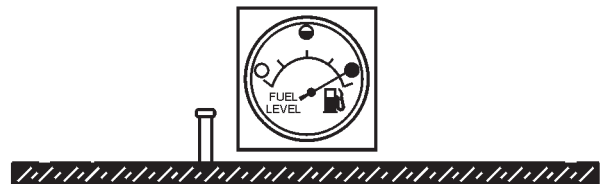

Figure 31. Full Fuel Tank
3. **NEVER overfill fuel tank** — It is important to read the fuel gauge when filling trailer fuel tank. **DO NOT** wait for fuel to rise in filler neck (Figure 31).
DO NOT OVERFILL fuel system. Leave room for fuel expansion. Fuel expands when heated (Figure 31).